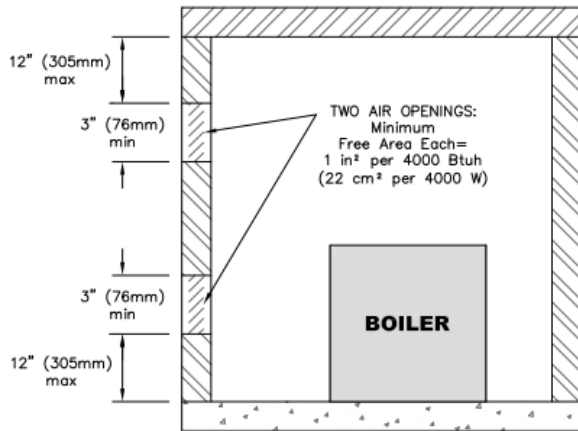
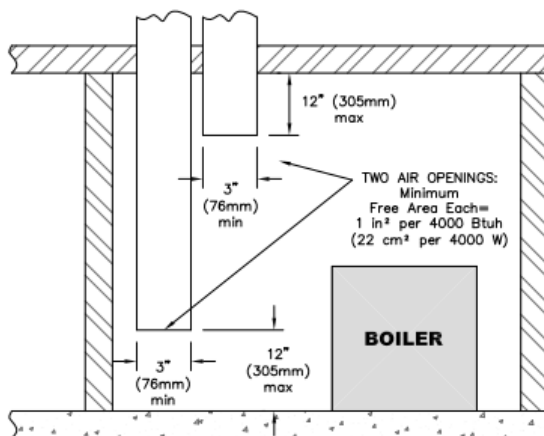

Figure 1.4: Air Openings – All Air Directly from Outdoors
Figure 1.5: Air Openings – All Air from Outdoors through Vertical Ducts
- Where communicating directly or through vertical ducts with the outdoors each opening shall have a minimum free area of 1 in² per 4000 Btu/hr (22 cm² per 4000 W) of total input rating for all equipment in the space. See Figure 1.4 for openings directly communicating with the outdoors or Figure 1.5 for openings connected by ducts to the outdoors.